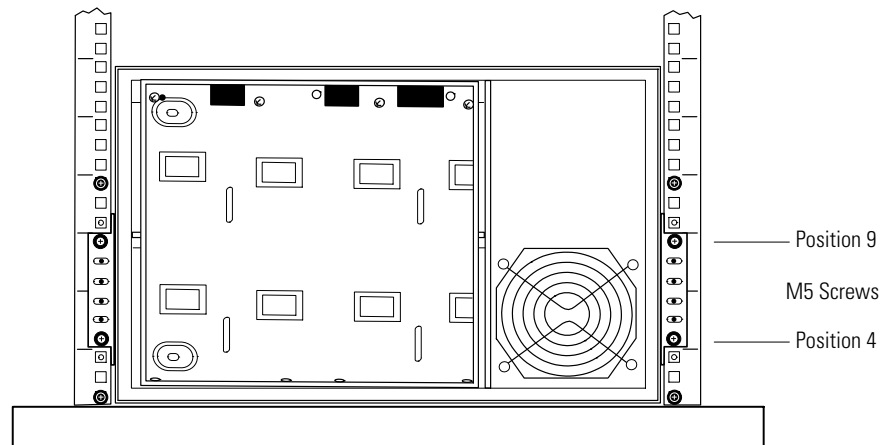

Figure 49. Securing the Front of the UPS
- 14.** Using four M5 machine screws, secure the front of the cabinet to the rack as shown in Figure 49.